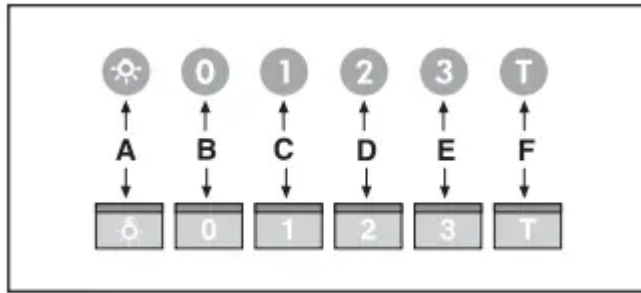

Fig.9
**Commands luminous (Fig.9)** the key symbols are explained below: